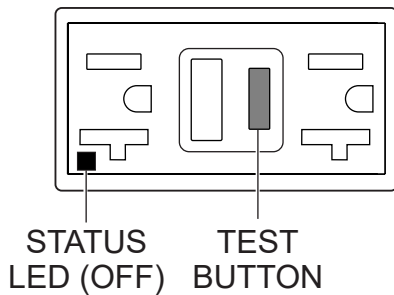

Figure 58. GFCI Receptacle (OFF)
4. Press the **TEST** button (Figure 58) on the GFCI receptacle and verify that the status LED turns **OFF**.